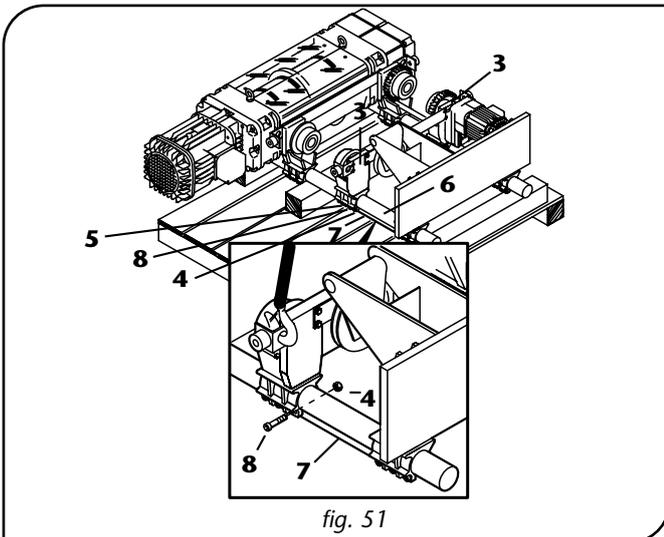

fig. 51
7. In order to make the plates -3- on the balance weight side slide freely on the bars -6- remove from the brackets -5- the spacers -7-, by unscrewing the nuts completely -4- and taking out the screws -8- (fig. 51).